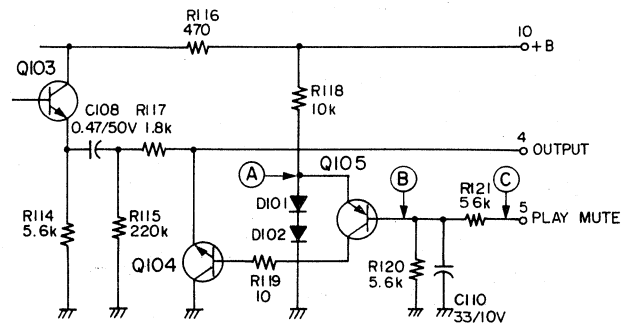

Fig. 3 (On play EQ unit)
Point (A) of Fig. 3 requires a voltage potential of 2 times the forward direction voltage drop of the silicon diodes (D101, D102) of 0.6 V (total 1.3 V) to maintain its state. This is the emitter voltage to stabilize Q105 and opposes the Muting Signal. This signal stabilizes the Muting signal during repeated ON/OFF operations. When point (C) is approx 0 V, the base current of Q105 flows from the emitter through R120 and Q105 goes ON. The collector current of Q105 becomes the base current of Q104 and Q104 also goes ON. The Playback output signal depends on the ratio of the resistance of R117 and the impedance of Q104. (When Q104 is ON, $Z \approx 0$ ohms). At this time Muting is ON. (Output signal is shorted to ground). Then when approx. +24 V is supplied to point (C), the voltage at point (B) (V point B $\approx \frac{24 V \times R120}{R120 + R121}$) is applied. Since the voltage potential is high, Q105 goes OFF. Then Q104 also goes OFF and muting is released. C110 opposes the muting signal so that the muting effect change will occur smoothly. Also it serves to make muting OFF occur slowly and muting ON occur quickly.